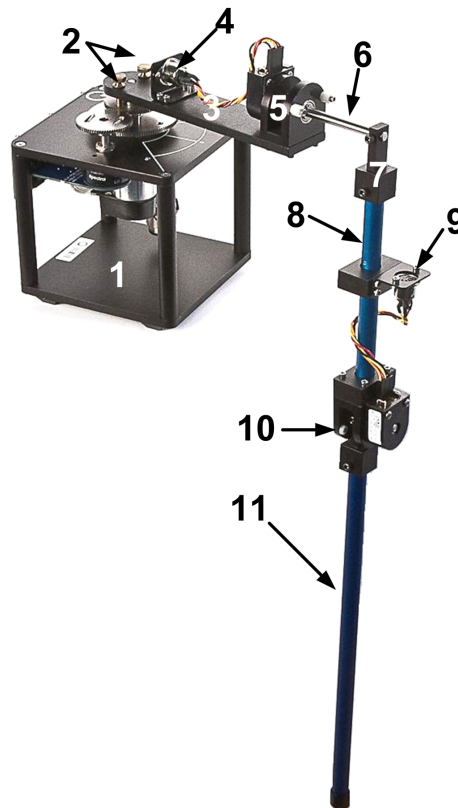
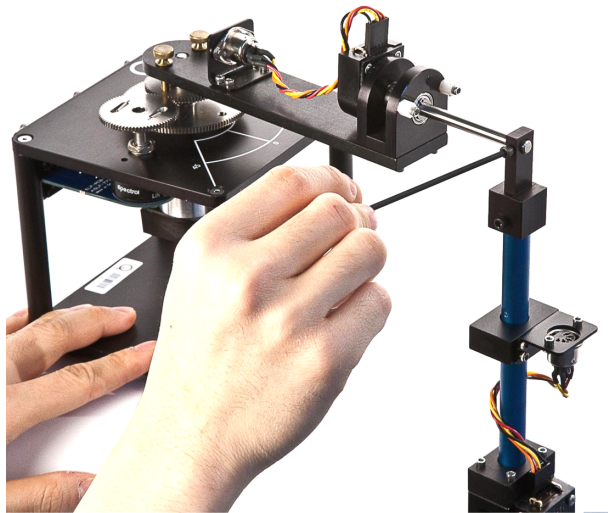

Figure 2.1: Quanser Rotary Double Pendulum (DBPEN-ROT).
Figure 4.2: Slide the T-Fitting of the pendulum
As depicted in Figure 2.1, the DBPEN-ROT is attaches to the Rotary Servo Base (SRV-02) unit. The balance control computes a voltage based on the angle measurements from the encoders. This control voltage signal is amplified and applied to the SRV02 motor. The rotary arm moves accordingly to balance the two links and the process repeats itself.
The components of the Rotary Double Pendulum module are listed in Table 2.1 below and labeled in Figure 2.1.
4. As shown in Figure 4.2 slide the T-Fitting of the pendulum, ID #6 in Figure 2.1, onto the metal shaft, ID #5 in Figure 2.1, and tighten the set-screw on the T-Fitting to brace the pendulum on the metal shaft.